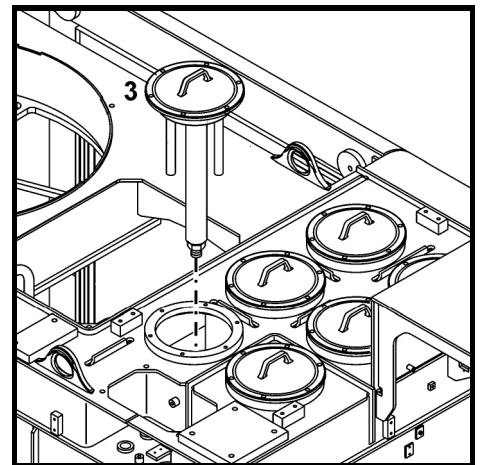

Fig. 24
- remove the cover 3 (Fig. 24) of one of the return filters